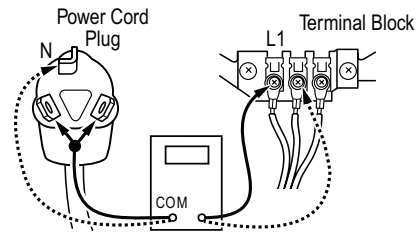

Figure 4. Plug-to-terminal connections for electric dryer.
3. With an ohmmeter, check for continuity between the neutral (N) terminal of the plug and the center contact on the terminal block. See Figure 4.
4. In a similar way, check which terminal of the plug is connected to the left-most contact on the terminal block and make a note of it. This will be L1 (black wire) in the wiring diagram. See Figure 4.